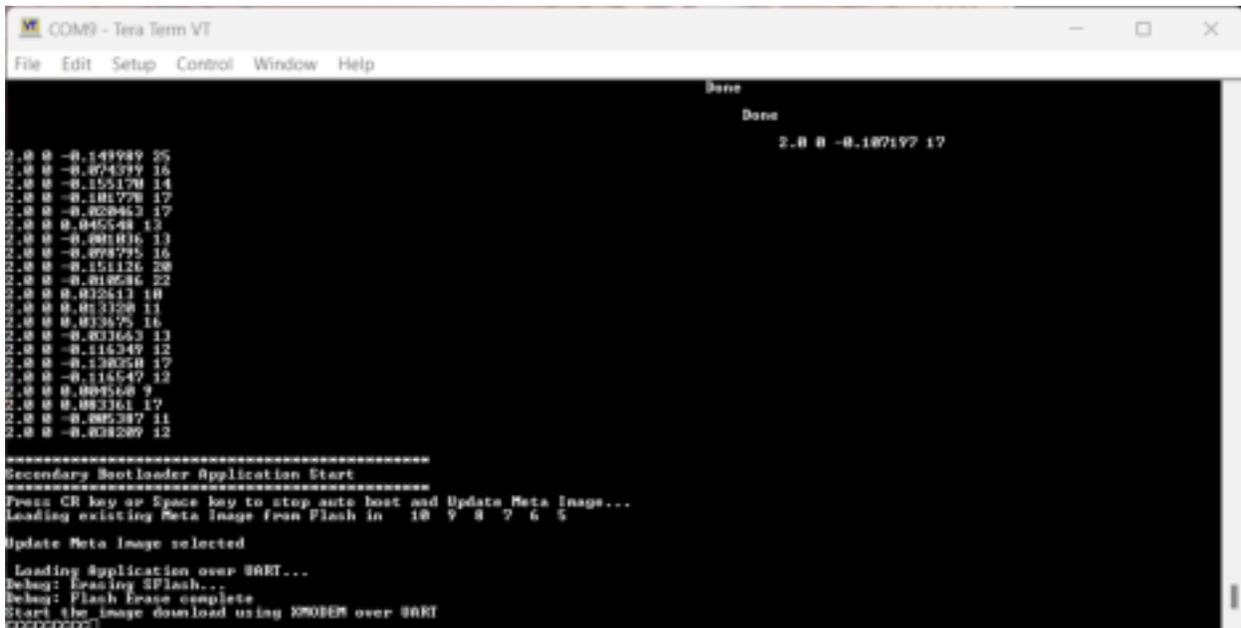

Figure 3. Secondary Bootloader Startup
2. When the sensor powers up, you will see the output in Figure 3.